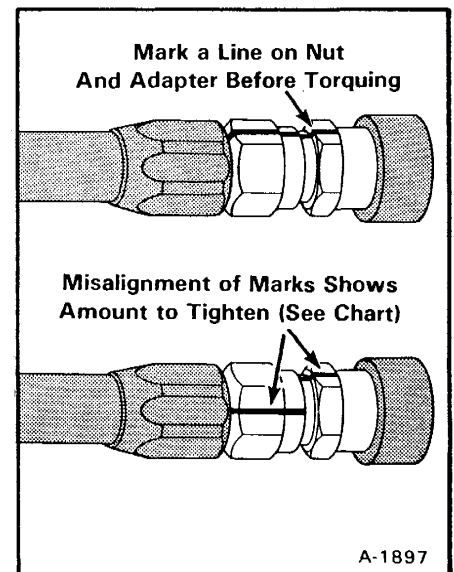

Fig. 2-1 Tightening Flared Fittings
- (1) Tighten the nut until it makes contact with the seat.
- (2) Make a mark across the "flats" of both the male and female parts of the connection (Fig. 2-1).
- (3) Use the chart below to find the correct tightness needed.